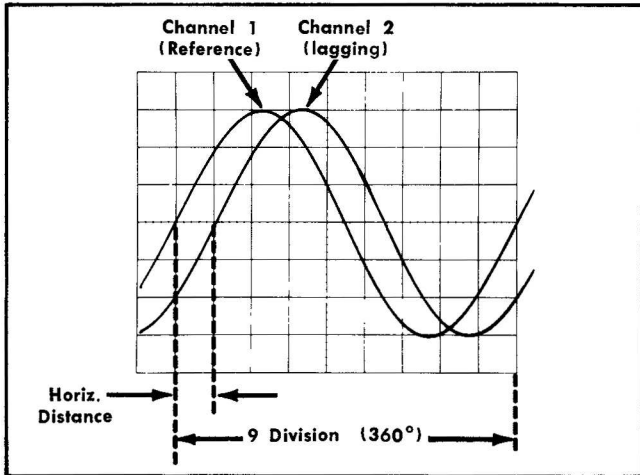

Fig. 2-4. Measuring phase shift.
5. Turn the Variable time/division control counterclockwise until 1 cycle of the reference signal (Channel 1 signal) occupies exactly 9 divisions horizontally. Each division of the graticule represents  $40^\circ$  of the cycle ( $360^\circ \div 9 \text{ divisions} = 40^\circ/\text{division}$ ). See Fig. 2-4).
For example, with a horizontal distance of 1.1 divisions as shown in Fig. 2-4., the phase difference would be: